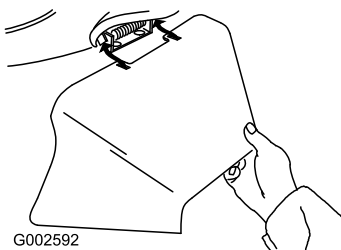

Figure 42
3. Install the side discharge chute and close the door onto the chute (Figure 42).